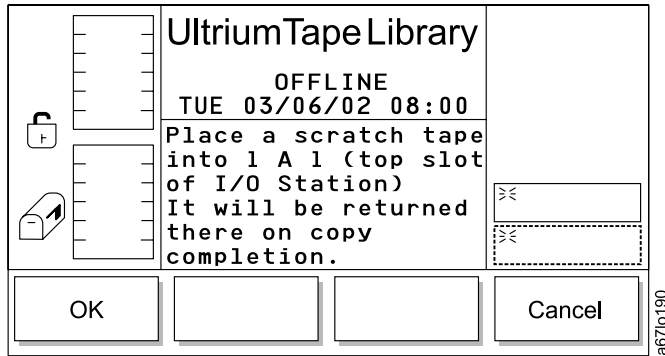

Figure 194. Scratch Tape Dialog
- If **OK** is selected, the Scratch Tape Dialog displays (see Figure 194 on page 150).